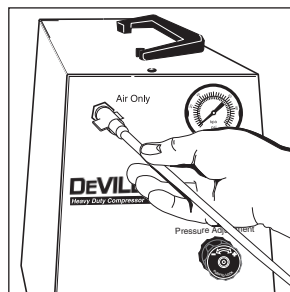
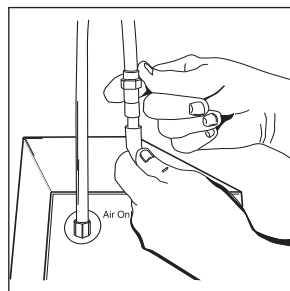

Figure 1
Figure 2
4. For disposable nebulizer use, thread the optional tubing connector to either the compressor air outlet or optional extension tube, then attach one end of nebulizer tubing **Figure 1** or **Figure 2**.